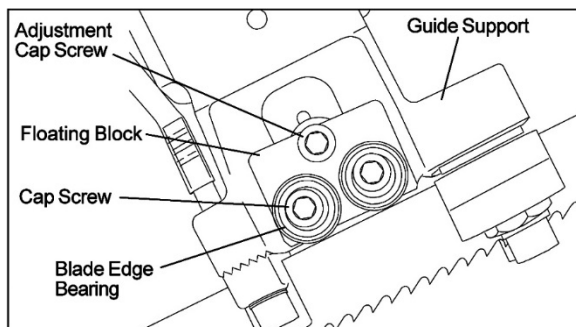

Figure 19: Blade edge bearing replacement
7. Adjust the bearings on upper edge of blade until they just contact blade (see Figure 19).
1. Remove cap screw from blade edge bearing being replaced and discard bearing. Be careful not to lose the lock washer that separates the bearing from the floating block (see Figure 19).